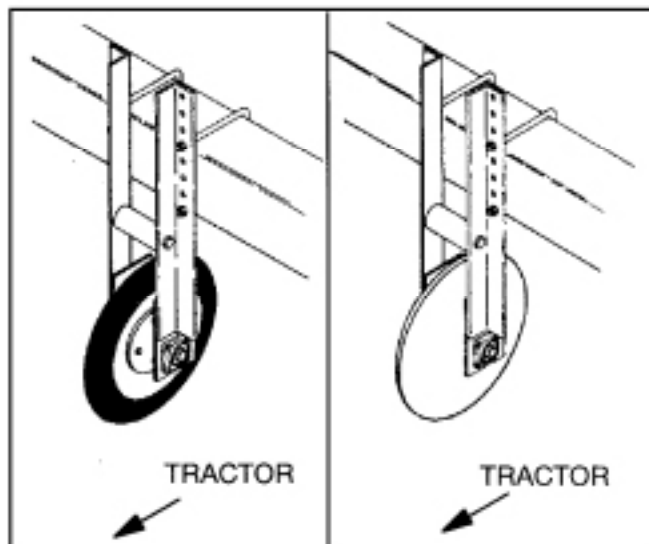

Figure 32 Semi-Pneumatic Wheels (left) & Steel Guide Wheels (right)
1. Mount guide wheels centered over guide marks, using U-bolts provided as shown in Figure 32.